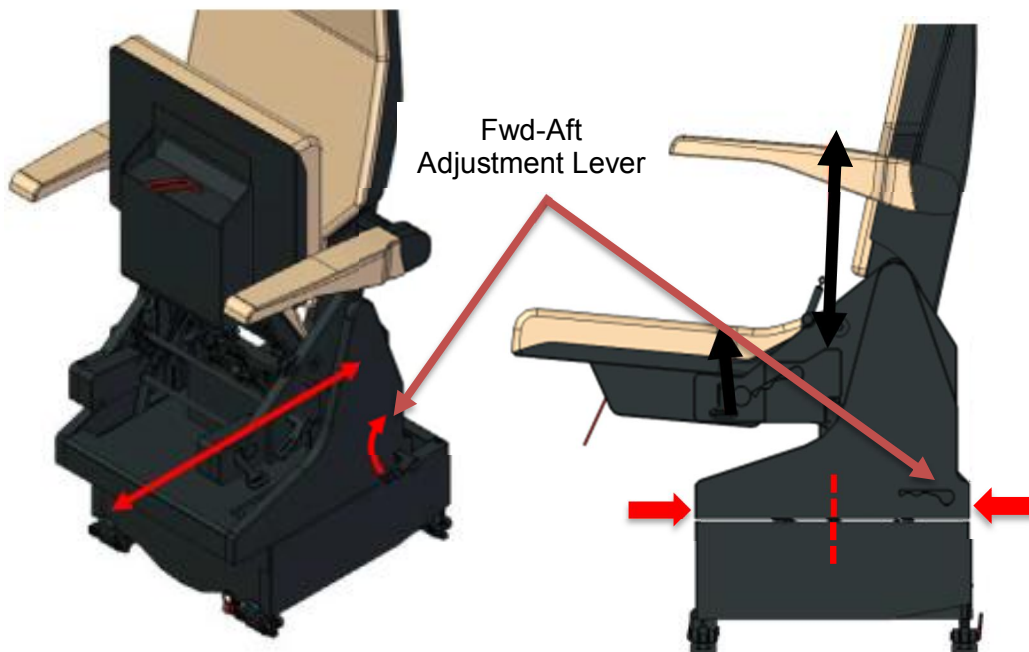

Figure 2 – Seat base in centered position
- If the seat base and upper frame are not in the center position (Figure 2).